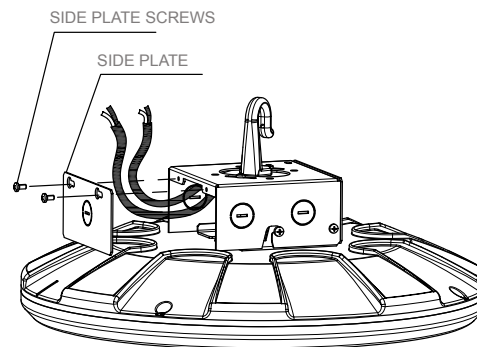

Figure 7
6. Push all wires back into the junction box. Replace the side plate and tight side plate screws. See Figure 7.